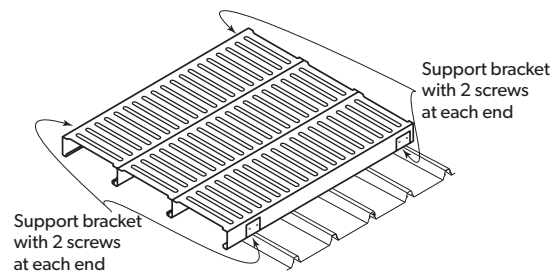

Figure 6
An end plate is used at the open end of a ROOFTRAK® plank that abuts nothing (Figure 6).
- Fix planks in place and secure the intersection with an L-bracket(s) (Figure 6).